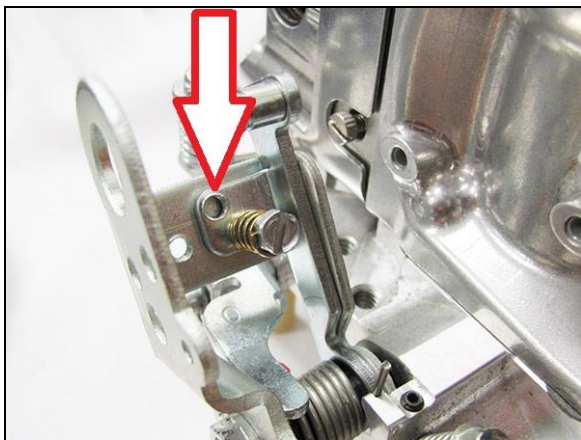

Figure 20
1. Unlock transmission kickdown lever by removing screw and spring and relocating to additional hole in the transmission kickdown lever (**Figure 20**).